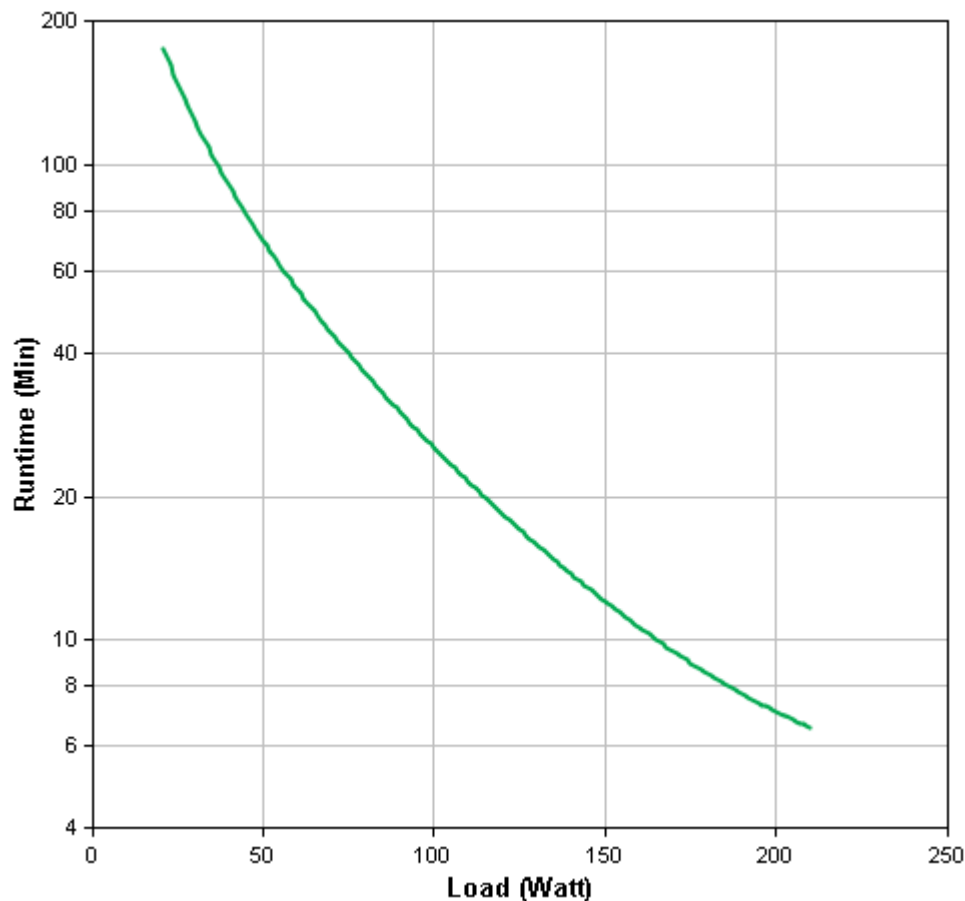

Figure 6
Figure 6 illustrates the run time of the SOLENERGIBOX™ in minutes compared with the load (W) of the connected device. The connected device is using 50 W power, the battery power in the SOLENERGIBOX™ lasts approximately for 70 minutes. On the other hand, if the connected device is using 150 W power, there is energy in the battery only for a little more than 10 minutes.